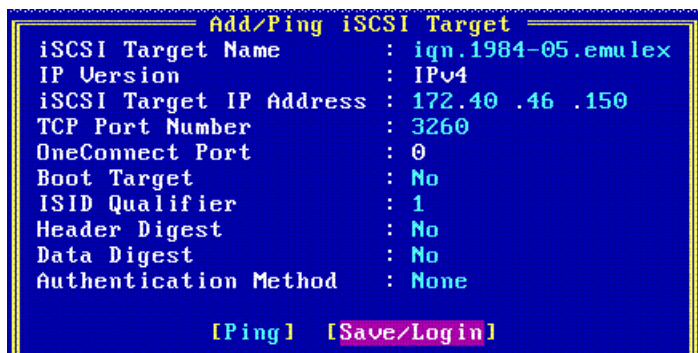

Figure 9-2 Add/Ping iSCSI Target dialog box
5. Select **Add New iSCSI Target** and press **<Enter>**. The Add/Ping iSCSI Target dialog-box is displayed (Figure 9-2).